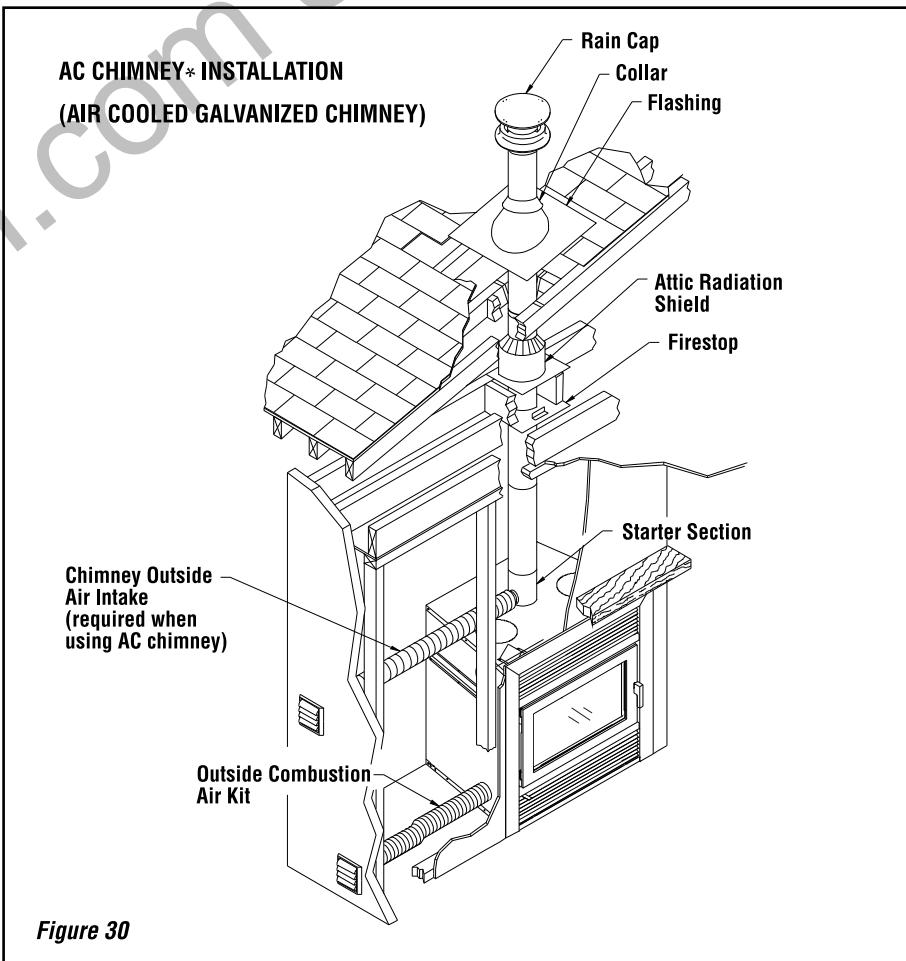

Figure 30
3. For ASHT* / HT6103++ / DuraTech® DTC** and S2100++ / HT6000++ chimneys place the first chimney length on the fireplace. To lock it in place, turn 1/4 of a turn clockwise. With the AC* chimney, you must use a starter section (**AC6SB*** or **AC6SB30***) before installing the first chimney length (**Figure 30**). Continue installing chimney lengths making sure to lock each length in place.
5. Then, put the roof flashing in place and seal the joint between the roof and the flashing with roofing pitch (see **Figures 30 and 31**). For sloping roofs, place the flashing under the upper shingles and on top of the lower shingles. Nail the flashing to the roof, using roofing nails.